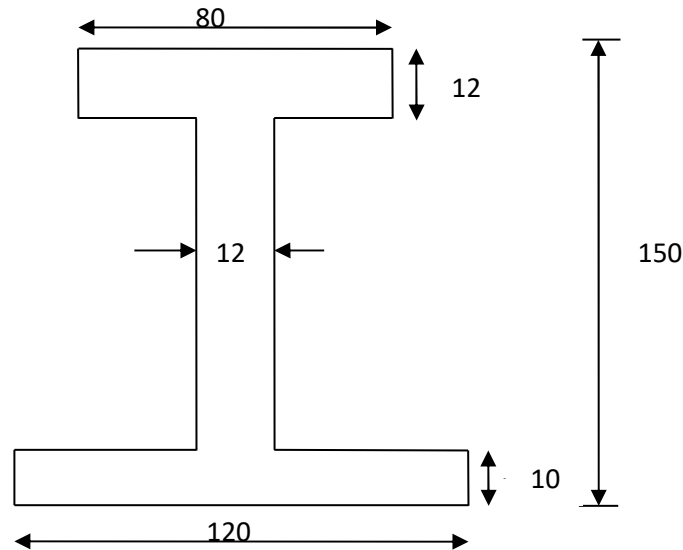

Fig.4c: All dimensions are in mm
- c) The cross section of a symmetrical I-beam is shown in **Fig.4c**